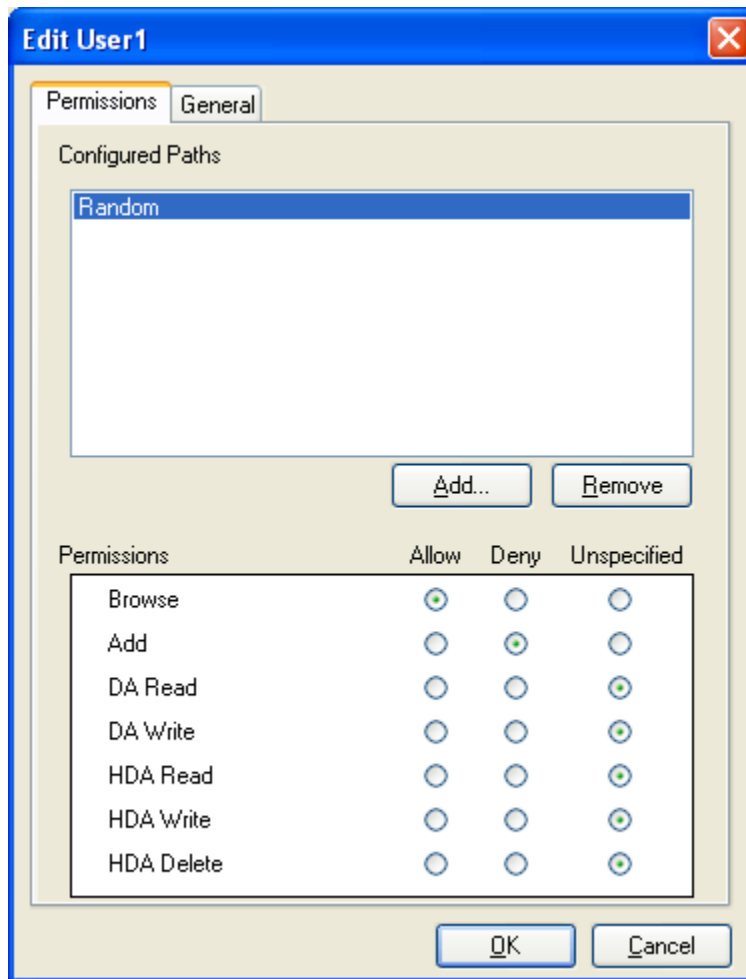

Figure 69 - Edit <Username>: Example
5. The selected path or item will be listed in the **Configured Paths** screen section of the **Edit User** window. Permissions can now be assigned, as in the example depicted in Figure 69.
- a. Check whether the permission type (**browse**, **add**, **read**, **write**, or **delete**) is specified (Figure 69). If the permission type is specified for the action being performed, a match is found and the permission (either allow or deny) is used.